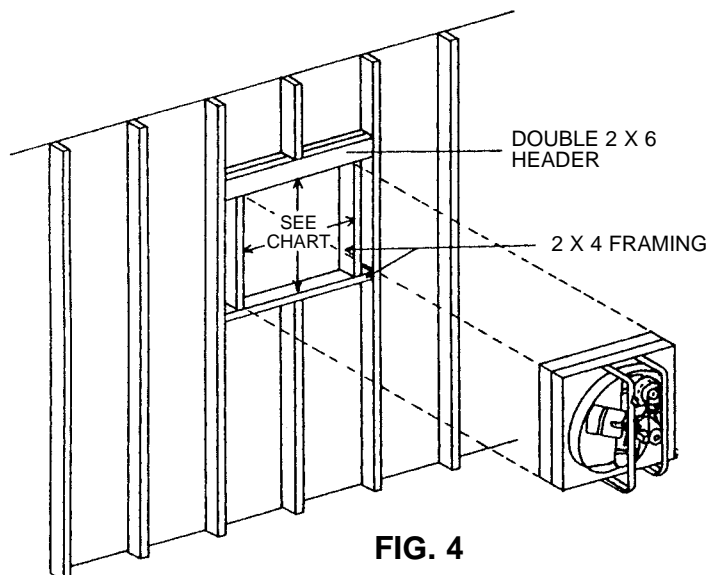

FIG. 4
STEP 8—To mount this attic fan in gable or wall, a box must be framed into wall construction as shown in Fig. 4. See wall opening in chart.